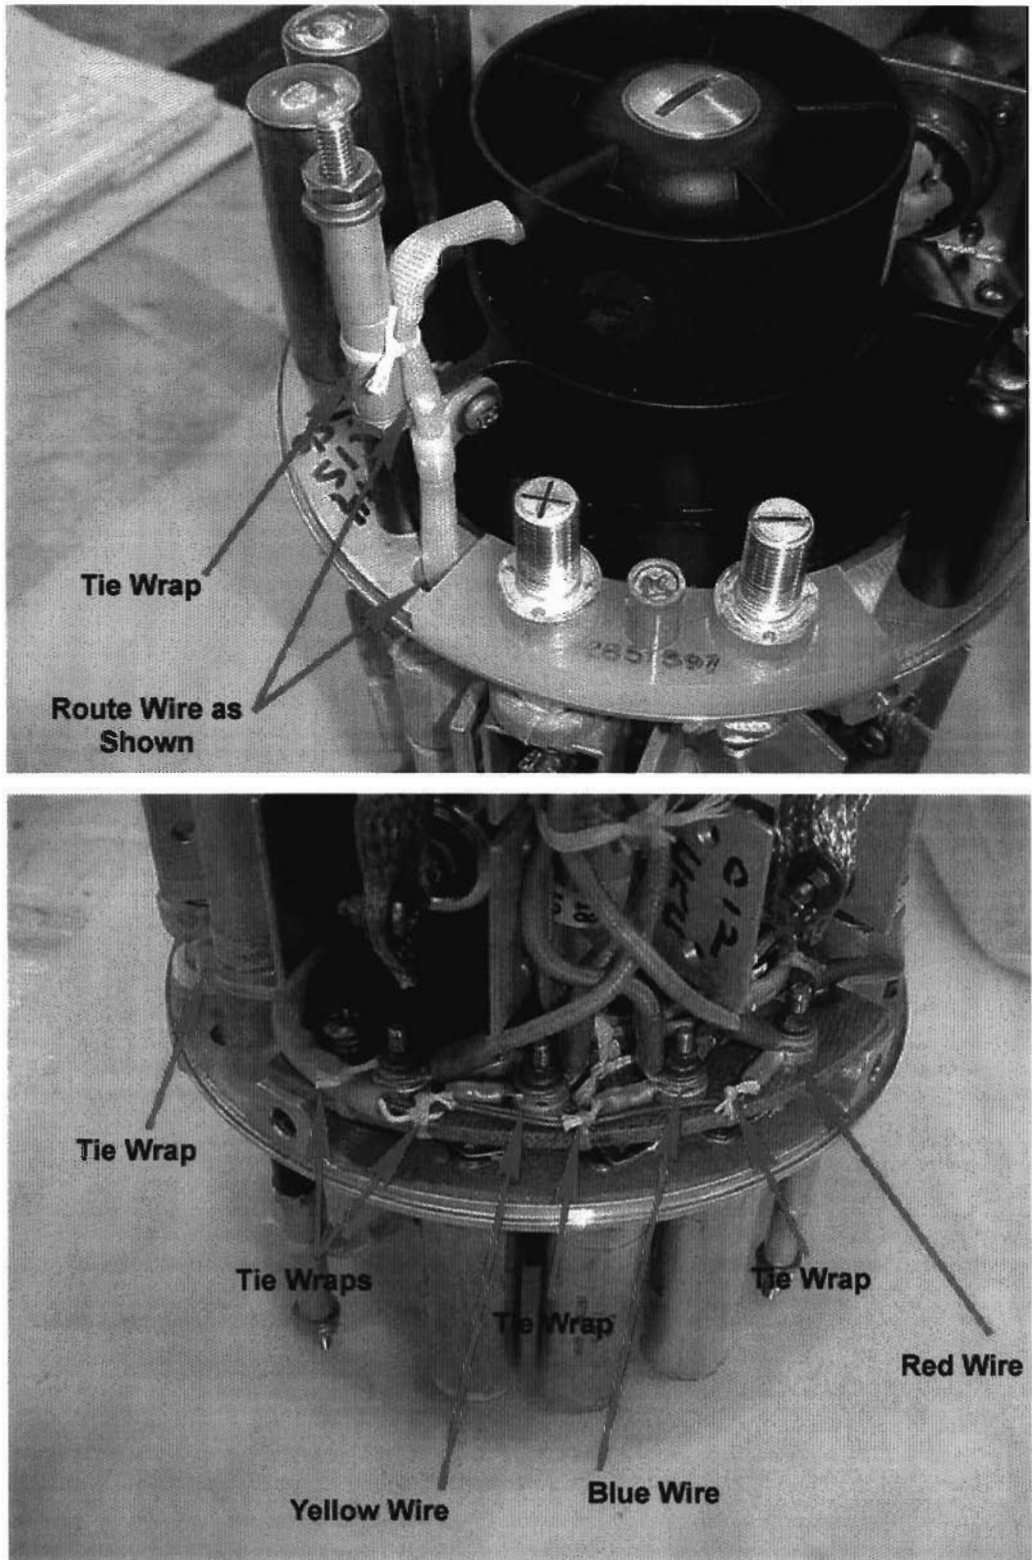

Figure 3. New Fan Wire Routing and Locations
- (5) Install new fan motor assembly (100) (P/N: 2031526) onto threaded tie bolts (101).
- (6) Install six spacers (104), three flat washers (103), three lockwashers (108) and three nuts (102) onto threaded tie bolts (101) and secure until tight.
- (7) Install fan wire lugs (112) from new fan motor assembly (100) (P/N: 2561526), to AC terminal board (81). See Figure 3 for view of proper wire routing and termination.